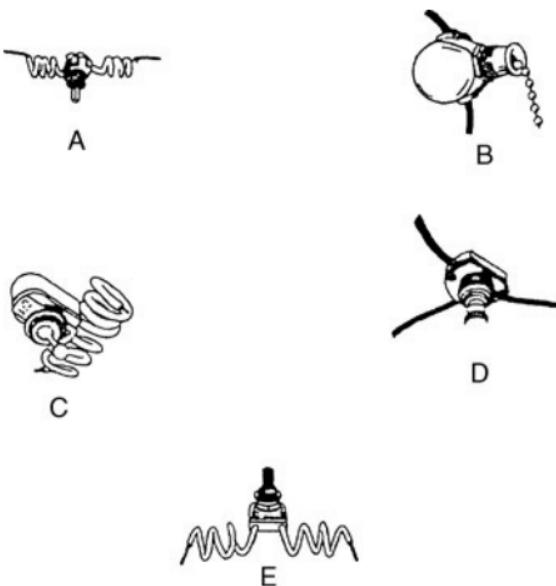

FIGURE 8-33. Canopy switches.
*Canopy switches* are used for lamps or small devices that require less than 6 amperes at 125 volts. Figure 8-33 shows several types: